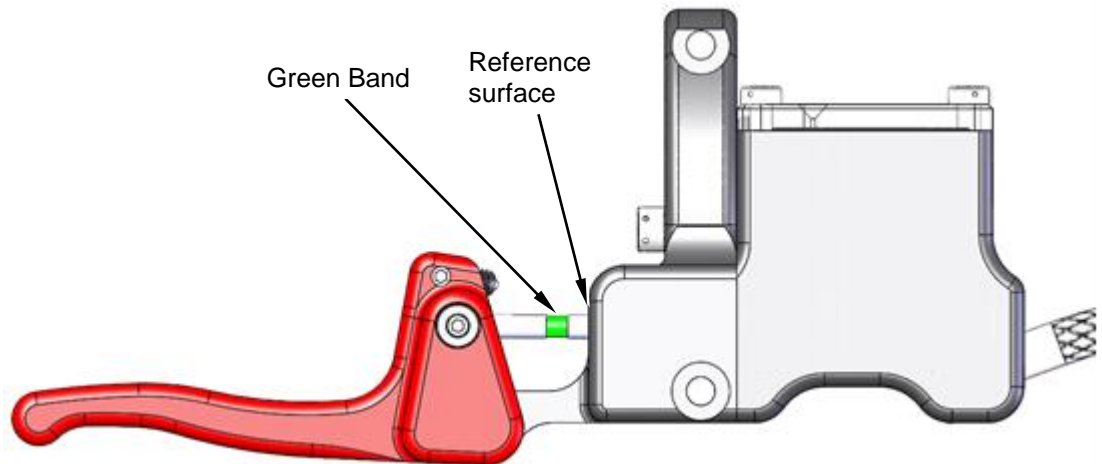

Figure 5.14 Checking System for Air
2. Check the system for air by actuating the lever firmly until it bottoms out. (Note, the cargo hook must be connected during this test). Check the push rod position as shown in Figure 5.14. If the green area on the push rod is visible above the reference surface, proceed to step 7.
10. Check the hydraulic release system for excess air in the lines by pulling the release levers firmly until they bottom out. Check the push rod positions (see Figure 5.14). If some of the green ring on the push rod is visible, the system is ready for use. If none of the green ring is visible, the system needs to be bled.